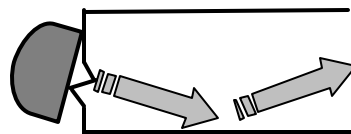

Figure 5
- Bolt ends with raised grade marks, or indentations with a raised edge, which cause the transducer to sit at an angle to the axis of the bolt, preventing adequate contact, as shown in Figure 5.